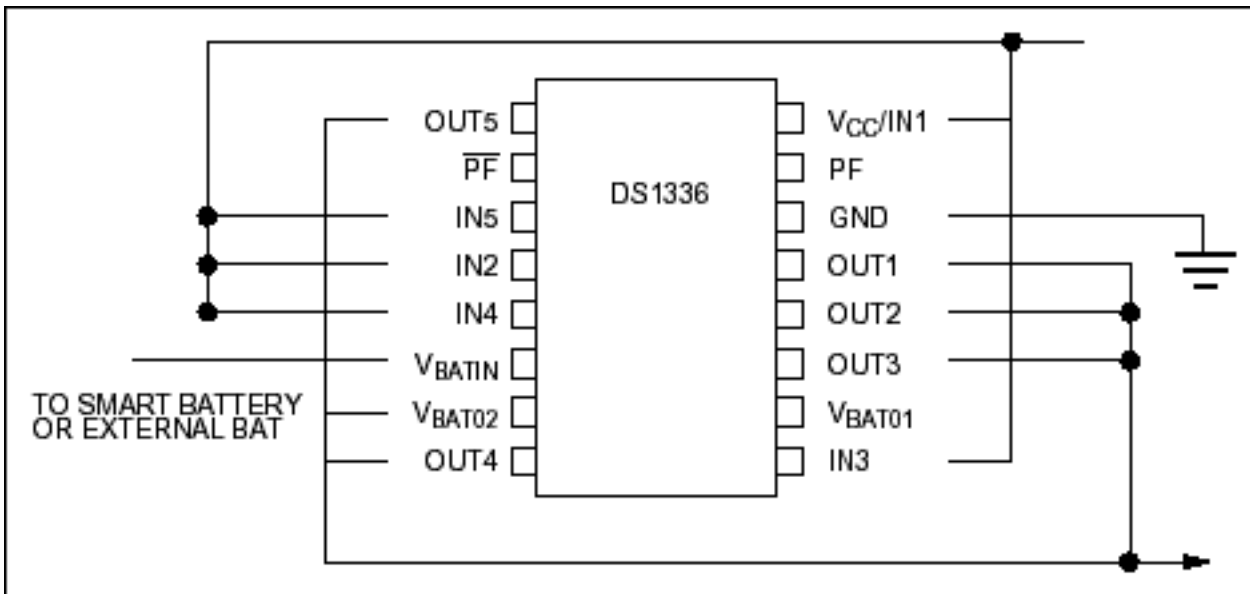

Figure 2. DS1336 Afterburner 16-Pin DIP or SOIC.
With items 1, 2, and 3 of the system requirements met, the next functions that can be easily consolidated into a one-chip solution are the power switching functions. The DS1336 is ideally suited for our system requirements (see **Figure 2**). The device can switch between a 3V or 5V, 1.5A supply to a backup 3V supply, with a maximum backup current of 4 mA. The DS1336 requires an external notification of a power failure. Once the external input is activated, the DS1336 immediately switches from the primary power supply to the backup power supply, in this case a lithium power source. Since the DS1336 has two complemented power-fail inputs, Active-low PF and PF, one can be used for the on-card power monitor, and the other can be connected to a power-fail status indicator on the backplane which can provide an advanced warning of a power failure, before it reaches the memory card.